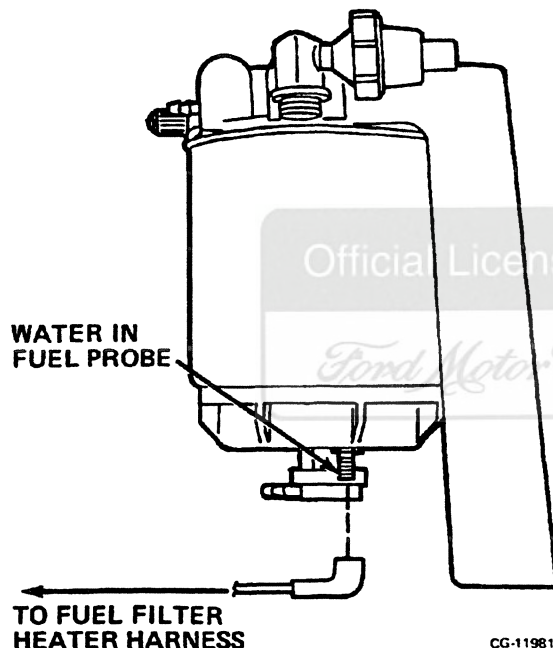

Figure 9.16. Water in Fuel Probe Location
**PROCEDURE:** (Refer to Figure 9.16)